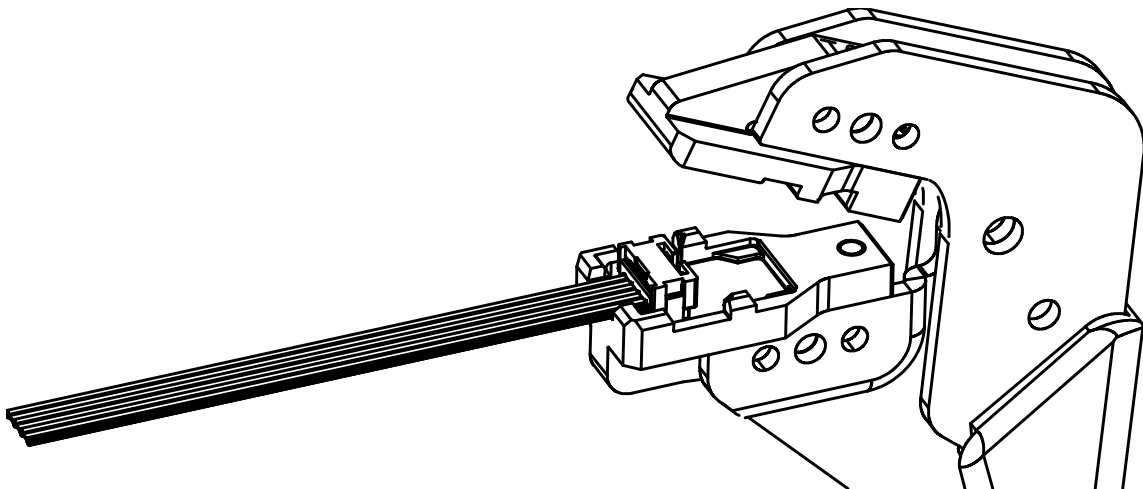

Figure 7
5.4. Crimping the Terminator (Figure 7)
2. Place the connector in the die set as shown in Figure 7.